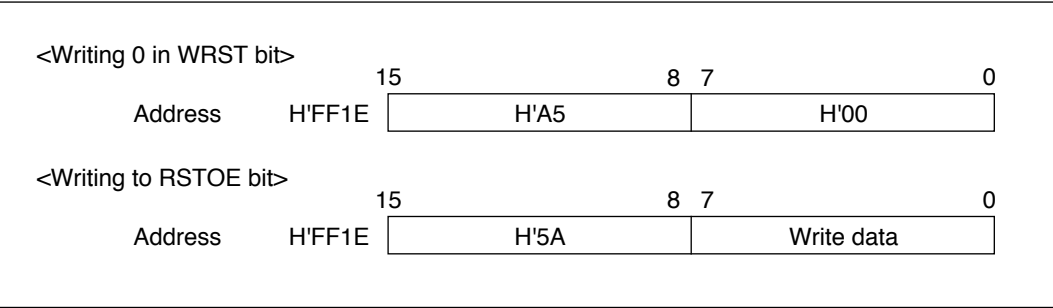

Figure 11-3 Format of Data Written to RSTCSR
(2) Writing to RSTCSR: RSTCSR must be written by word access. It cannot be written by byte instructions. Figure 11-3 shows the format of data written to RSTCSR. To write 0 in the WRST bit, the write data must have H'A5 in the upper byte and H'00 in the lower byte. The H'00 in the lower byte clears the WRST bit in RSTCSR to 0. To write to the RSTOE bit, the upper byte must contain H'5A and the lower byte must contain the write data. Writing this word transfers a write data value into the RSTOE bit.